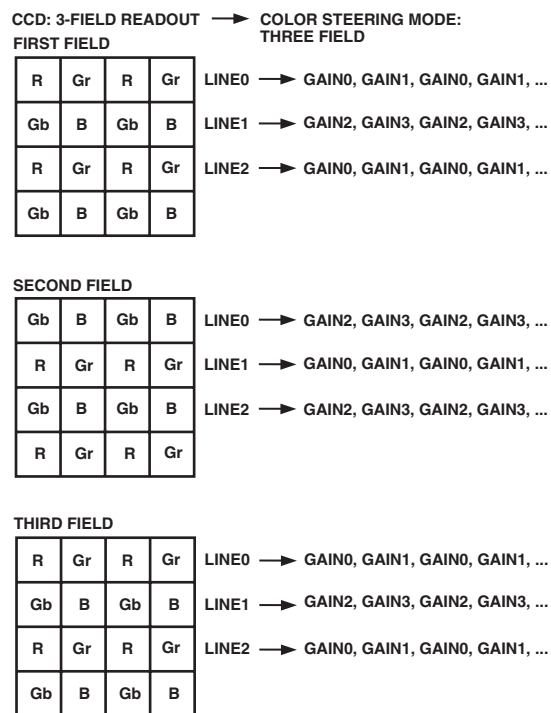
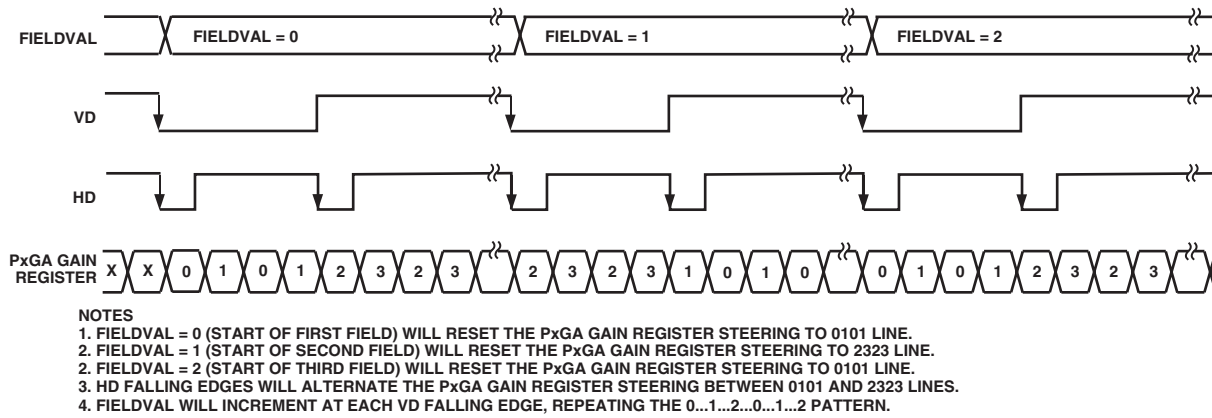

Figure 17c. CCD Color Filter Example—Three-Field Readout
Figure 18c. PxGA Color Steering—Three-Field Mode
A third type of readout uses the Bayer pattern divided into three different readout fields. The three-field mode should be used with this type of CCD (see Figure 17c). The color steering performs the proper multiplexing of the R, G, and B gain values (loaded into the PxGA gain registers), and is synchronized by the user with vertical (VD) and horizontal (HD) sync pulses. For timing information, see Figure 18c.